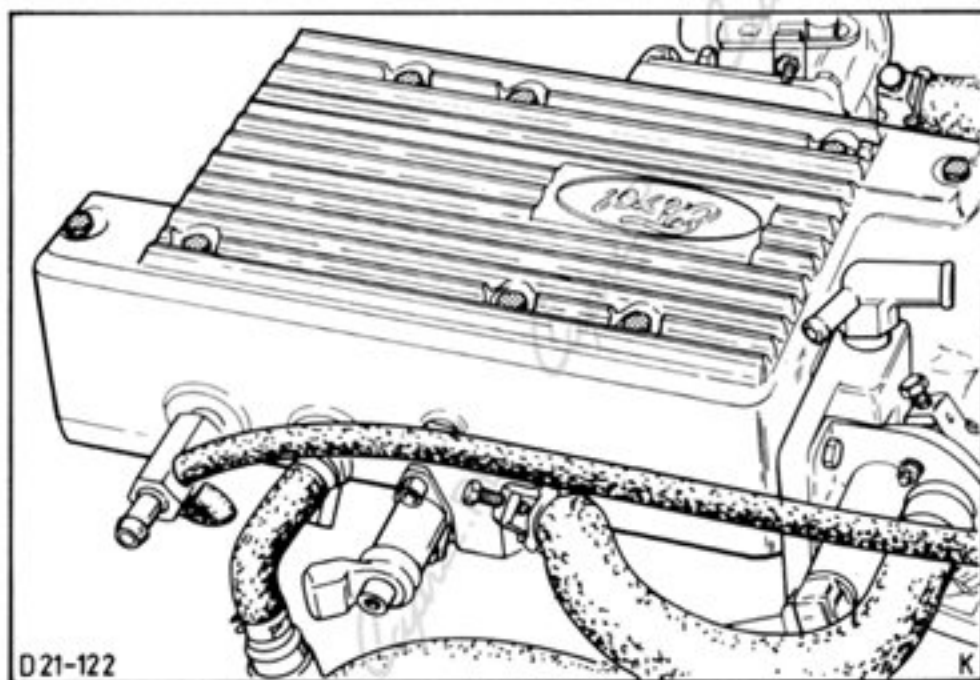

Fig.85. Remove air box.
9. Disconnect engine breather hose with valve from rocker cover and remove air box from intake manifold (8 bolts), Fig.85.